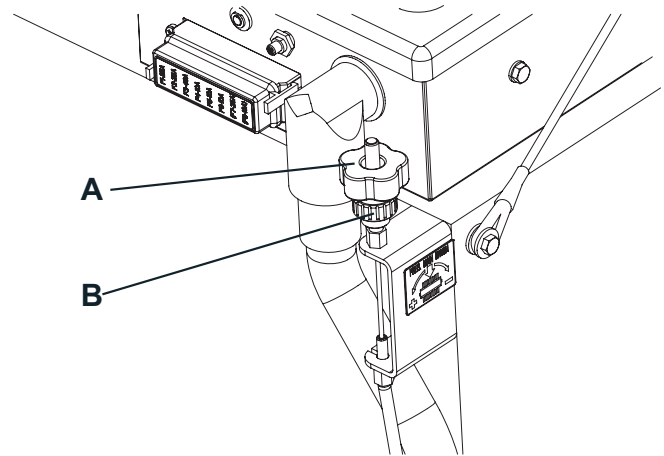

Figure 2
2. Engage the parking brake with the pedal (3) and the lever (4).
3. Turn the ignition key (82) to "0".
4. Open the hood (7).
5. Loosen the knob (A, Fig. 2) on the left side of the machine.
6. Turn the knob (B, Fig. 2) and remind that: